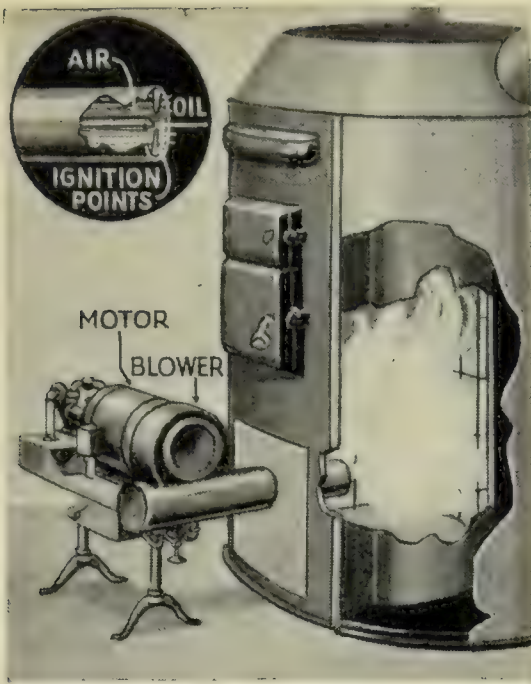

FIG. 70. This is called a gun-type oil-burner. In the upper left corner is shown the construction of the nozzle for spraying oil and air.
**H**OW ARE THE FIRES IN OIL-BURNING FURNACES REGULATED? To burn oil without smoke, the oil must first be changed into a very fine mist, or vapor. One common way of doing this is to pump the oil through a tiny nozzle under high pressure. This breaks the oil into a fine mist (Figure 70). At the same time an electric fan blows a current of air past the nozzle. An electric spark sets the mixture of fuel and air on fire, and it burns until a thermostat stops the motor that runs the pump and fan.